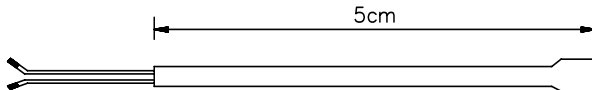

Fig. 4.0
- Slide the shrinking tube over the wires and over the sensor (Fig. 4.0).